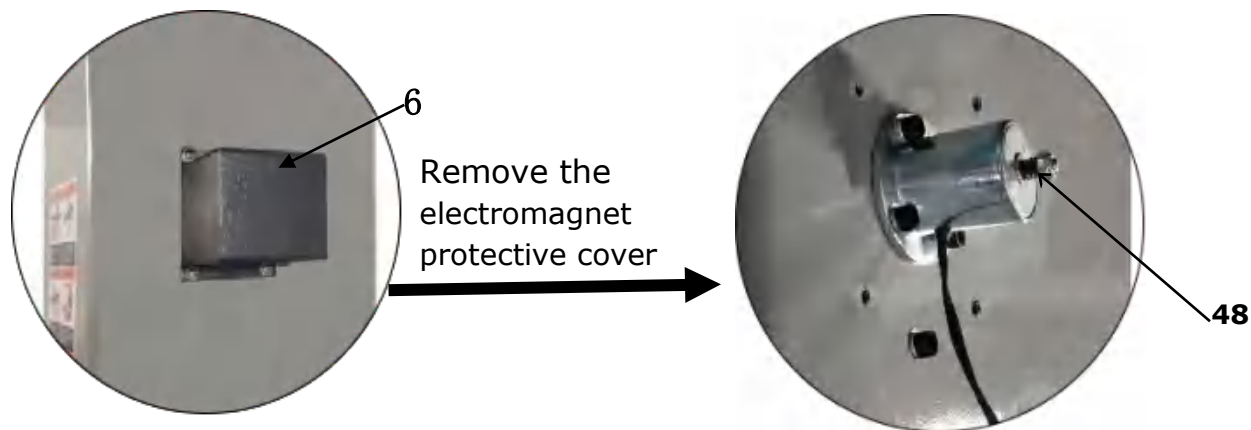

Fig.16
1. Remove the both side columns electromagnet protective cover (See Fig. 16).